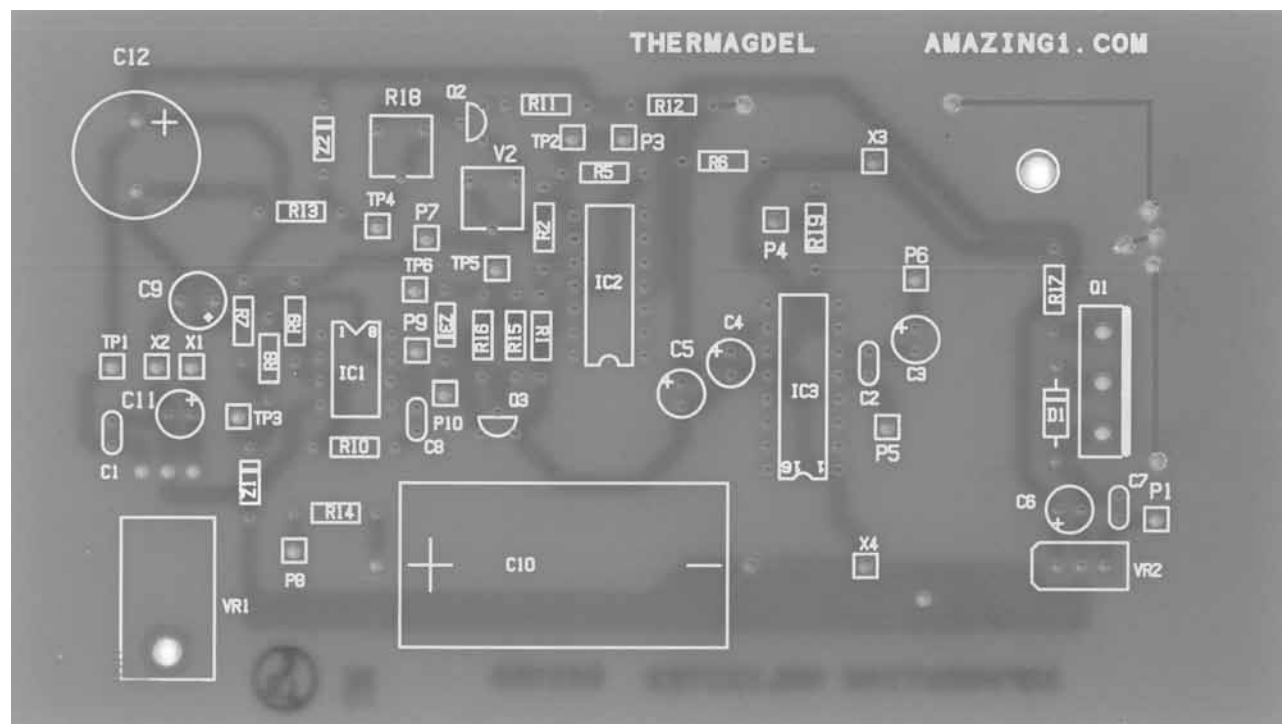
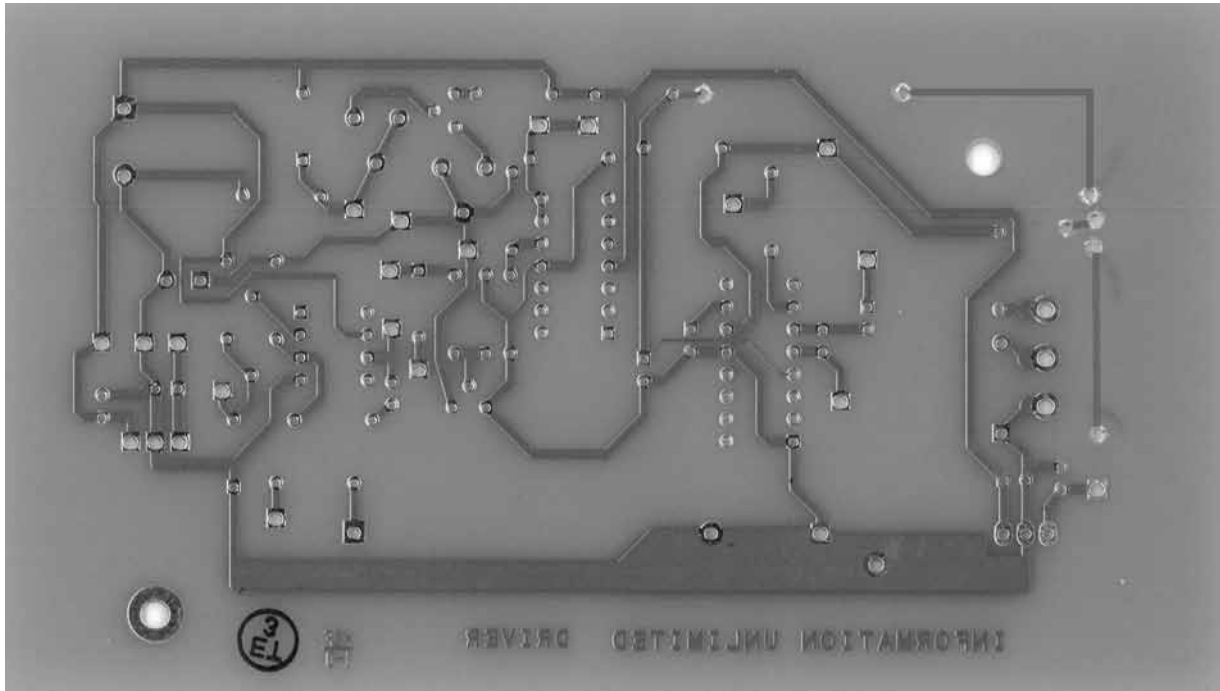
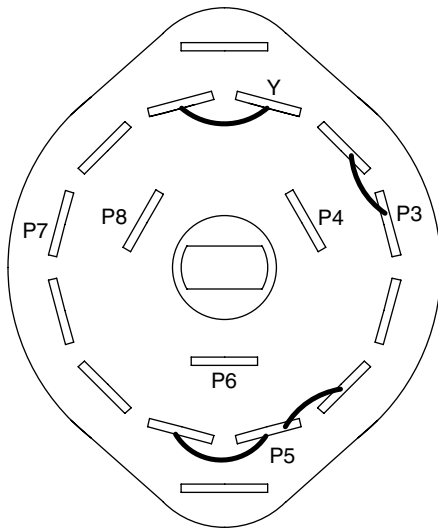

Figure 6-4 Control PCB component placement.
Figure 6-5 Control PCB circuitry (“x-ray” view).
Figure 6-7 S2 rotary switch wiring.
We build our Control Module on a dedicated printed circuit board (PCB), but it also may be built on a perf board if the wiring layout in Fig. 6-5 is followed. The control board generates and controls the variable pulses. A function generator integrated circuit (IC3) XR2206 with PULSE frequency rate determined by the remote-control (RC) timing circuit using capacitors C2 and C3 and with R21FP allows adjustment from 0.5 to 1500 Hz in two ranges as selected by the rotary multifunction switch S2BFB. A digital frequency meter (FREQMETFP) reads out the frequency selected. The high range is from 50 to 1500 Hz, whereas the low range is from 0.5 to 96 Hz.
A PCB is used for the Control Module (Fig. 6-4), which is available on our website (www.amazing1.com), or a perf board can be used with wiring that follows the connections on the back of the Control Module board (Fig. 6-5). Note that Fig. 6-5 is an “x-ray” view of Fig. 6-4 looking straight through to the wiring as a help to better see the connections between components. If you purchase a board, please note the additional 7 holes drilled in the right half of the board to accommodate the R3, R4, and R12 resistors and the Q4 transistor, as well as the corresponding wiring between these components.
P3: 7-inch black wire going to S2 rotary switch (see Fig. 6-7)
P4: 7-inch white and black striped wire going to S2 rotary switch (see Fig. 6-7)
P5: 7-inch green wire going to S2 rotary switch (see Fig. 6-7)
P6: 7-inch black wire going to S2 rotary switch (see Fig. 6-7)
P7: 6-inch blue wire going to S2 rotary switch (see Fig. 6-7)
P8: 6-inch white wire going to S2 rotary switch (see Fig. 6-7)
Figure 6-7 shows where wires attach to the front-panel dial S2 coming from the Control Module (see Figs. 6-4, 6-6, and 6-7) plus the one yellow wire Y going to the front-panel dial R3.